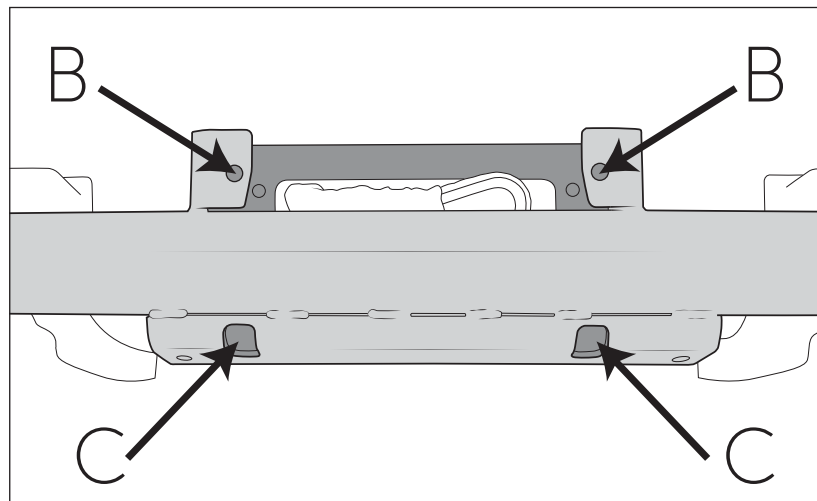

Figure 17
- B. Start 2 AEV supplied M10 x 4" bolts at the top of the winch (fig. 17).
C. Start 2 WARN supplied M10 bolts at the bottom of the winch (fig. 17).